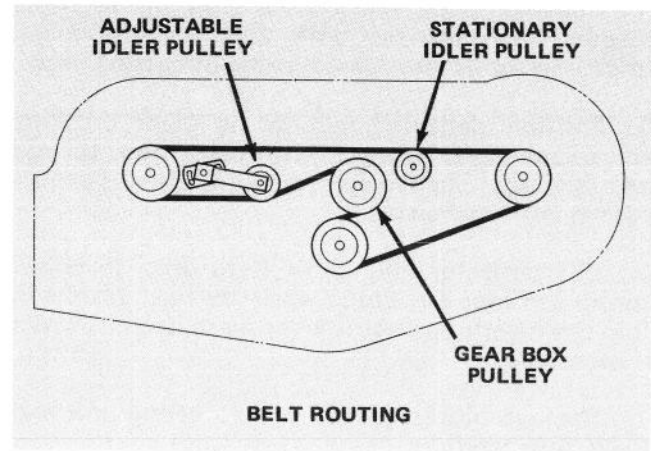

Figure 35
5. Install new belt around gear box pulley, spindle pulleys, stationary idler pulley and adjustable idler pulley (Fig. 35).